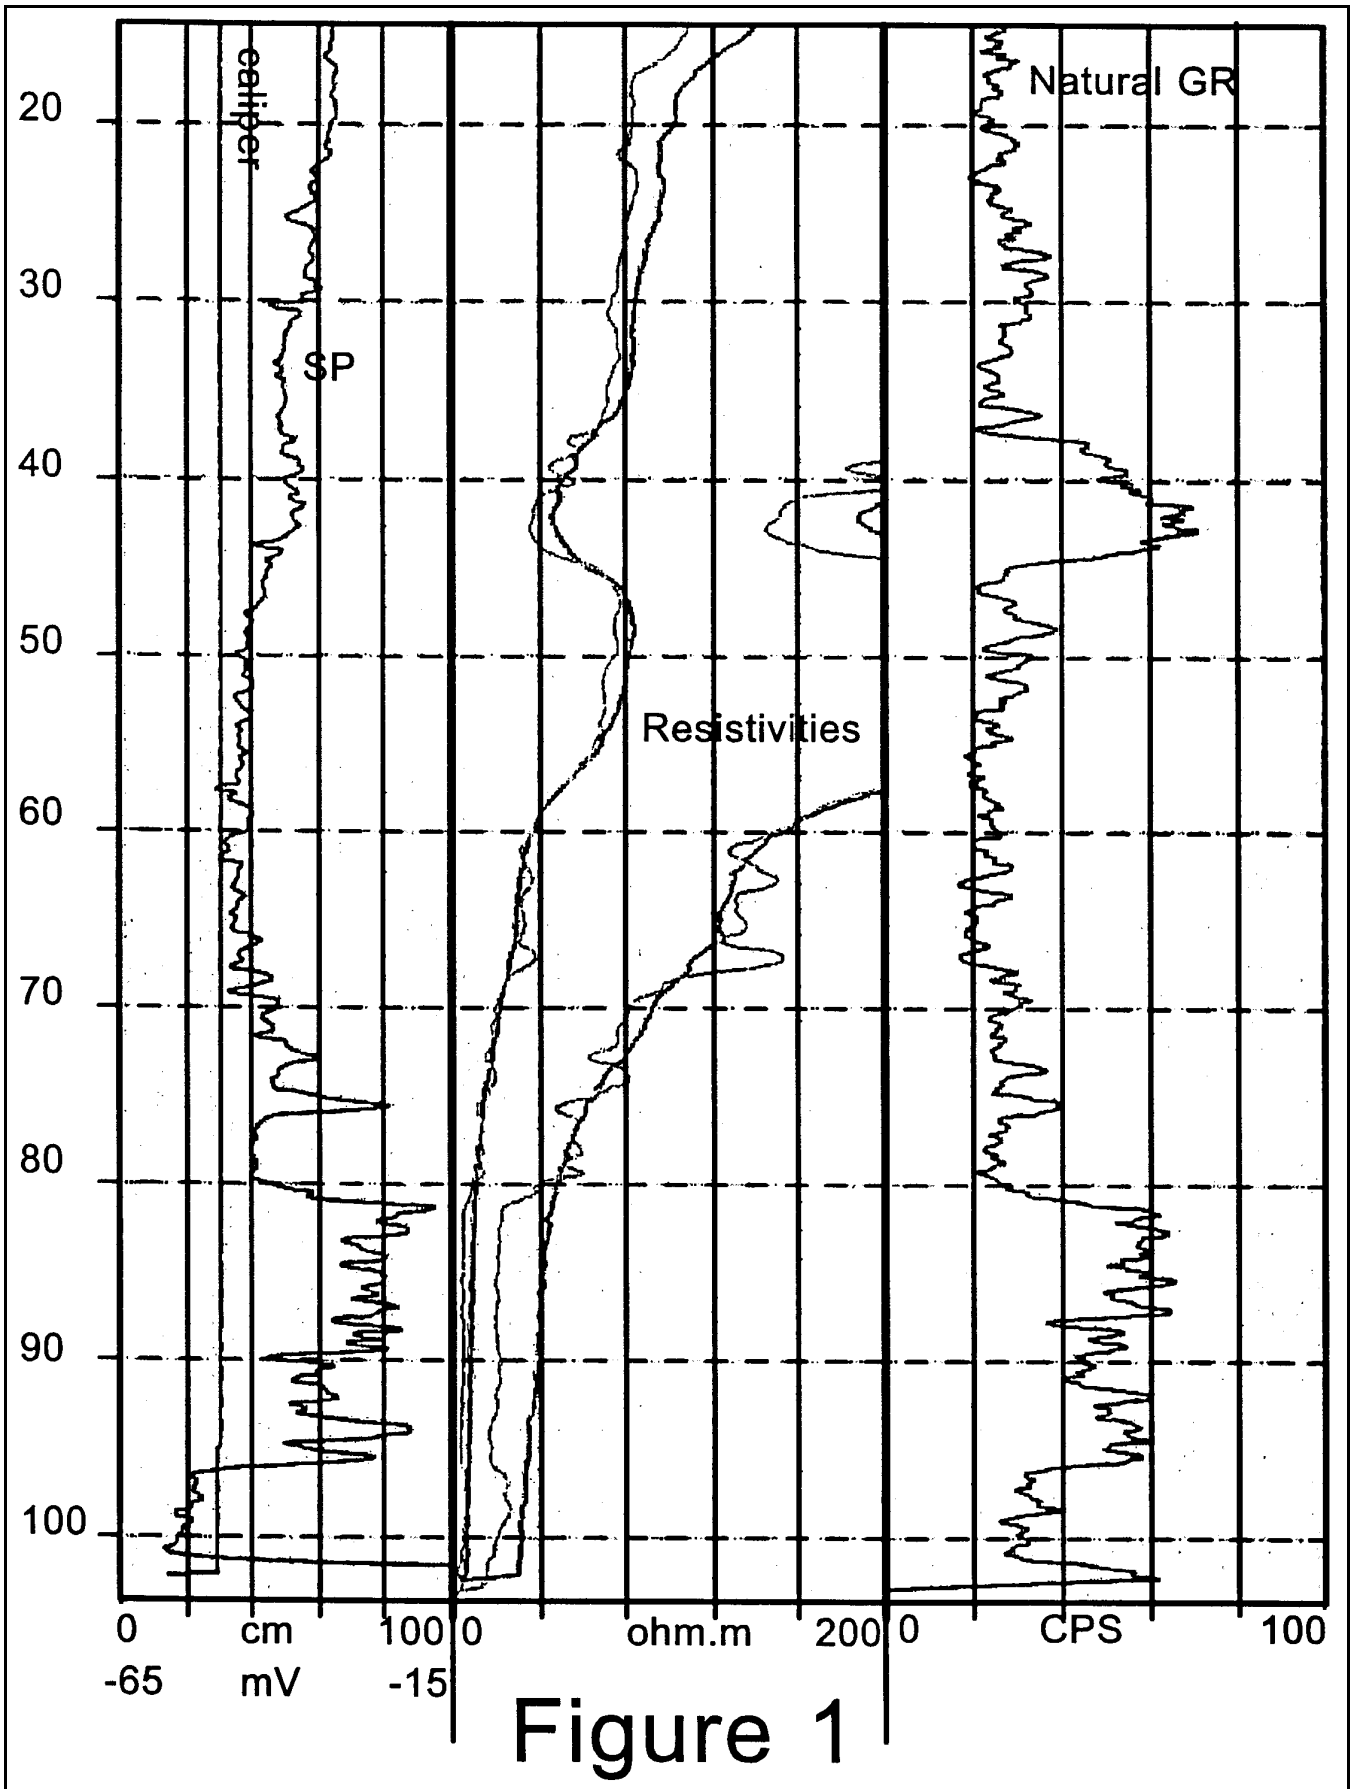

Figure 1
- Use figure 1 to place the filter beds.